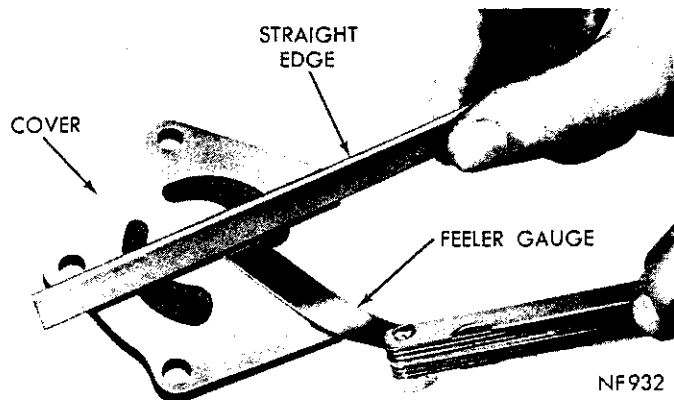

Fig. 51—Measuring Oil Pump Cover Flatness
- (1) The mating face of the oil pump cover should be smooth. If cover is excessively scratched or grooved, it should be replaced.
- (2) Check for excessive cover to rotor wear by laying a straightedge across cover surface. If a .0015 inch feeler gauge can be inserted between the cover and straightedge, discard cover and install a new one (Fig. 51).